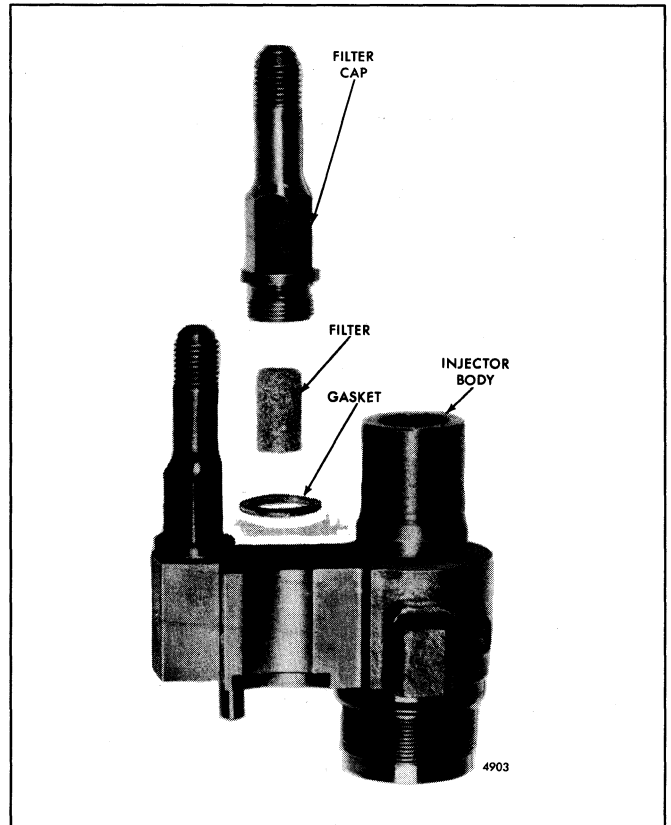

Fig. 23 - Details of Injector Filters and Caps and Their Relative Location
2. Insert new filter(s), dimple end down, slotted end up, in the top of the body (Fig. 23).